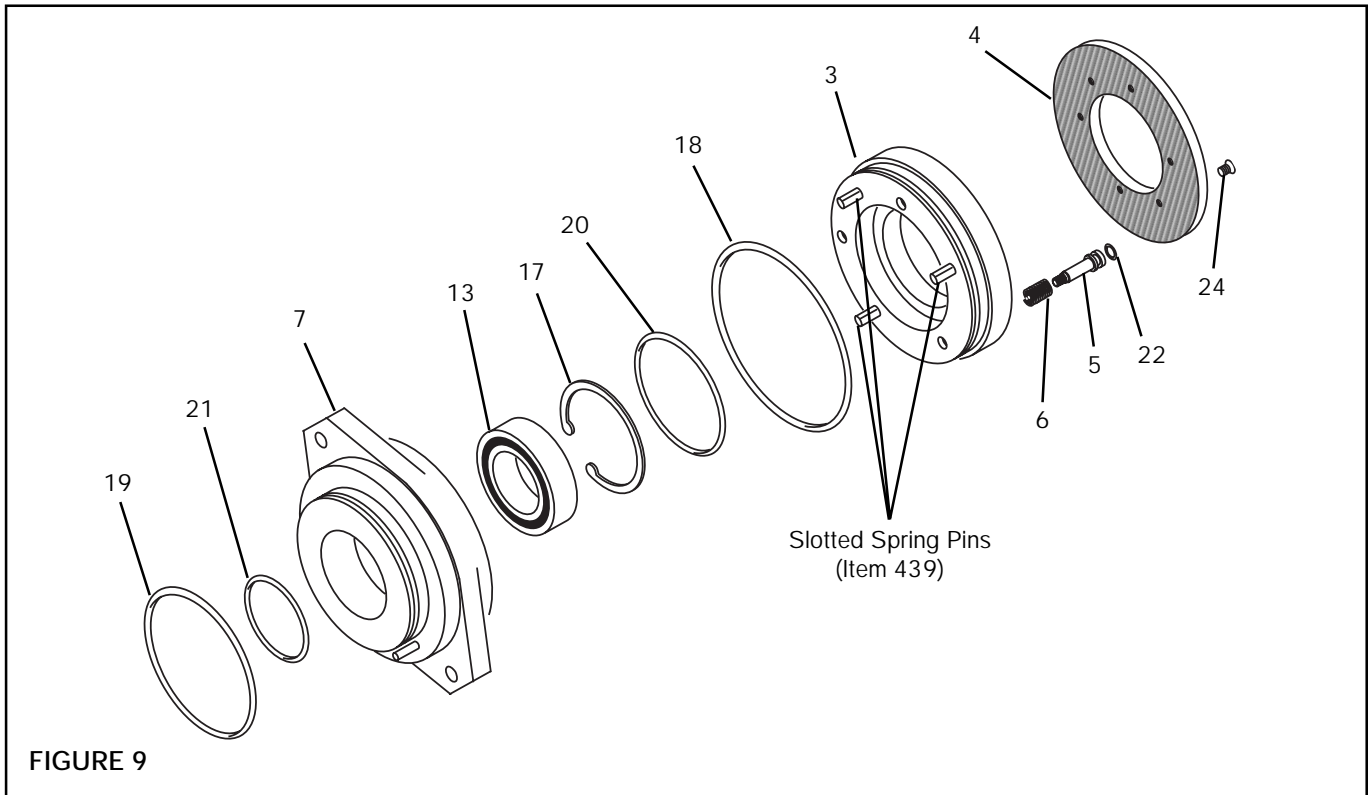

FIGURE 9
1. Remove the six Flat Head Machine Screws (Item 24) and the old Friction Facing (Item 4) (See Figure 9).
2. Remove the three Shoulder Bolts (Item 5), Shoulder Bolt O-ring Seals (Item 22), and the Shoulder Bolt Compression Springs (Item 6) (See Figure 9).
3. Separate the Air Chamber Piston (Item 7) from the Piston (Item 3) (See Figure 9).
4. Remove the Retaining Ring (Item 17) from the Air Chamber Piston (Item 7) (See Figure 9).
5. Press the Bearing (Item 13) out of the Air Chamber Piston (Item 7) (See Figure 9).
6. Clean the bearing bore of the Air Chamber Piston (Item 7) with fresh safety solvent, making sure all old Loctite® residue has been removed (See Figure 9).
7. Apply an adequate amount of Loctite® 680 to evenly coat the outer race of the new Bearing (Item 13) (See Figure 9).
8. Carefully align the outer race of the new Bearing (Item 13) with the bore of the Air Chamber Piston (Item 7) (See Figure 9).
9. Supporting the Air Chamber Piston (Item 7) and pressing on the outer race of the new Bearing (Item 13), press the new Bearing into the Air Chamber Piston (See Figure 9).
10. Install the Retaining Ring (Item 17) (See Figure 9).
11. Remove O-ring Seals (Items 19 and 21) (See Figure 9).
12. Remove O-ring Seals (Items 18 and 20) (See Figure 9).
15. Coat the new O-ring Seals (Items 18 and 20) with fresh o-ring lubricant (See Figure 9).
16. Install the new O-ring Seals (Items 18 and 20) (See Figure 9).
17. Align the Slotted Spring Pins (Item 49) of the Piston (Item 3) with the holes in the Air Chamber Piston (Item 7) (See Figure 9).
18. Press the Piston (Item 3) into the Air Chamber Piston (Item 7) (See Figure 9).
19. Remove the old O-ring Seals (Item 22) from the Shoulder Bolts (Item 5) (See Figure 9).
20. Coat the new O-ring Seals (Item 22) with fresh o-ring lubricant (See Figure 9).
21. Install the new O-ring Seals (Item 22) (See Figure 9).
22. Apply a drop of Loctite® 242 to the threads of the Shoulder Bolts (Item 5) (See Figure 9).
23. Install the Shoulder Bolts (Item 5) and Shoulder Bolt Compression Springs (Item 6) (See Figure 9).
24. Alternately and evenly tighten the Shoulder Bolts (Item 5) to 43 In. Lbs. [4.9 N•m] torque (See Figure 9).
25. Using six new Flat Head Machine Screws (Item 24), install a new Friction Facing (Item 4) (See Figure 9).
26. Tighten the six Flat Head Machine Screws (Item 24) to 19 In. Lbs. [2.1 N•m] torque (See Figure 9).